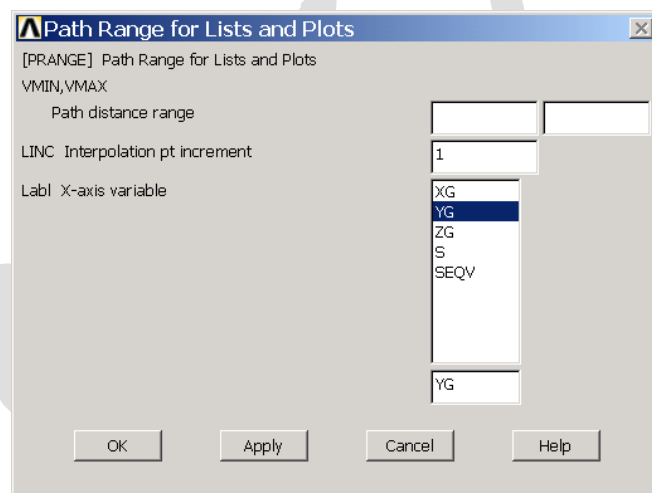

图6.42 选择横坐标数据项
(1) 单击 Main Menu>General Postproc>Path Operations>Plot Path Item>Path Range 菜单，弹出如图 6.42 所示的【Path Range for Lists and Plots】对话框。